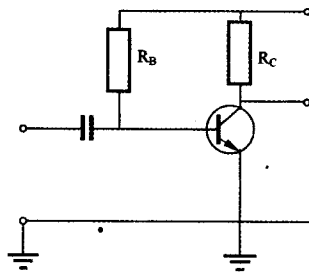

Figure 5
- (c) Figure 5 shows an amplifier circuit whose current gain is 100.
Figure 5 shows the layout of a power final circuit. Using PVC sheathed wiring system, install the circuit such that the sockets are connected in radial. (20 marks)